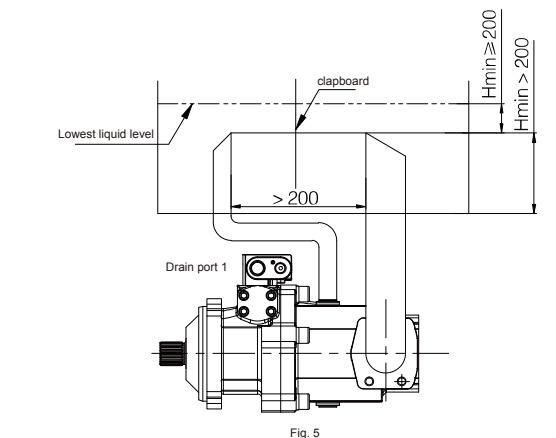

Fig. 5
- When install under oil tank, blocked Drain Port 2, piping Drain Port 1 and pump suction port, according Fig. 5.